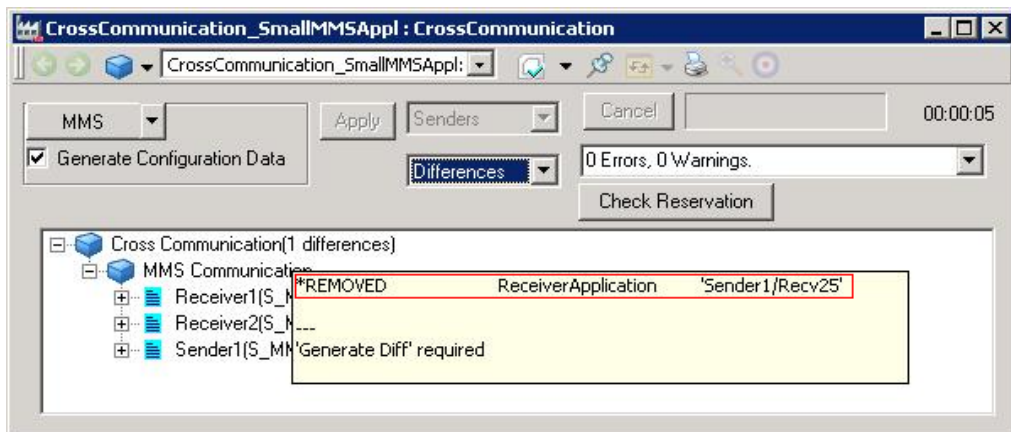

Figure 280. CrossCommunication between Single Sender and Receiver Diagram
- a. In case, cross communication happens between a sender diagram and receiver diagram across applications, and the respective sender / receiver diagrams are not involved in communication with any other diagrams. A tool tip (see Figure 280) on the CrossCommunication object in the Sender